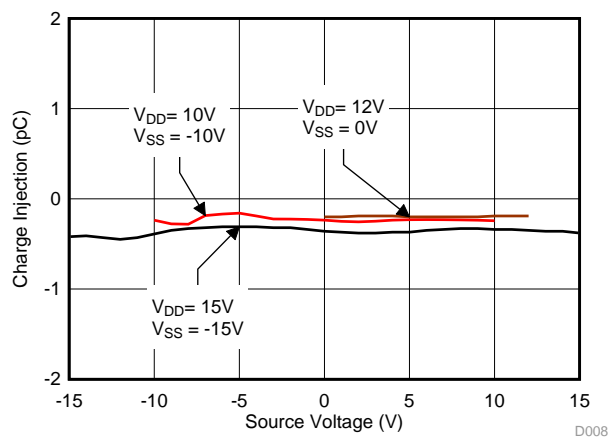

Figure 31. Source-to-Drain Charge Injection vs Source Voltage
The TMUX6119 utilizes special charge-injection cancellation circuitry that reduces the source (Sx) to drain (D) charge injection to as low as -0.35 pC at $V_S = 0$ V, and -0.41 pC in the full signal range, as shown in Figure 31.